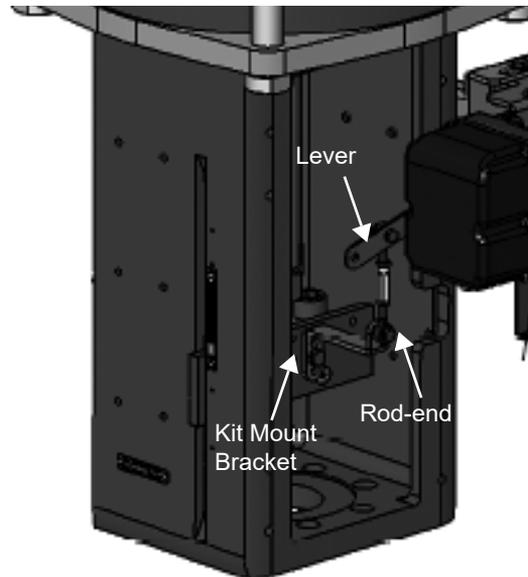

Figure 18 85/86 Valve
2. Install the mounting assembly to the yoke (Figure 18) using helical spring washer 5/16, flat washer 5/16 and hex screw 5/16-18x44.5 [1.75] LG.